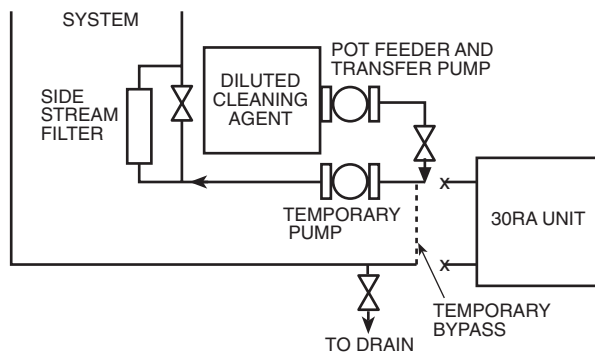

Fig. 14 — Cleaning Using a Side Stream Filter
- c. A side stream filter is recommended (see Fig. 14) during the cleaning process. Filter side flow rate should be enough to filter the entire water volume every 3 to 4 hours. Change filters as often as necessary during the cleaning process.